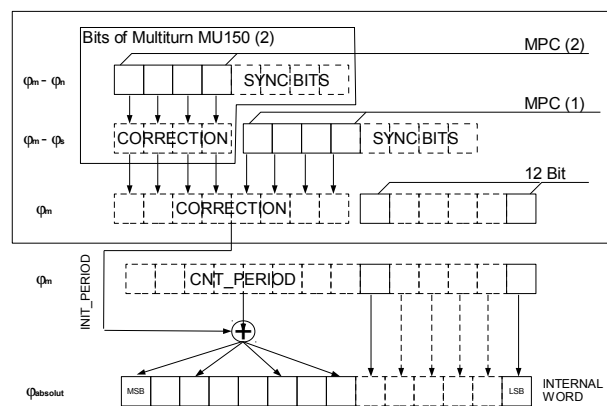

Figure 43: Principle of the synchronization of a 3-track nonius system using 2 iC-MU150 without further multiturn data
Figure 43 shows the principle of the synchronization of the data from iC-MU150 (2) to iC-MU150 (1).